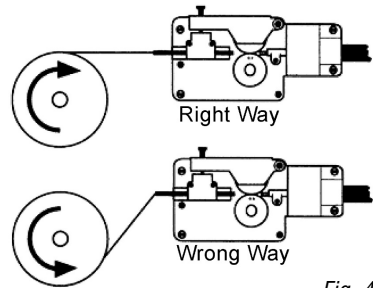

Fig. 4
4. Place the spool on the spindle so the wire is straight, not at an angle, when it enters the welding unit mechanism (Fig. 4). The welding wire should always come off the top of the spool into the drive mechanism.